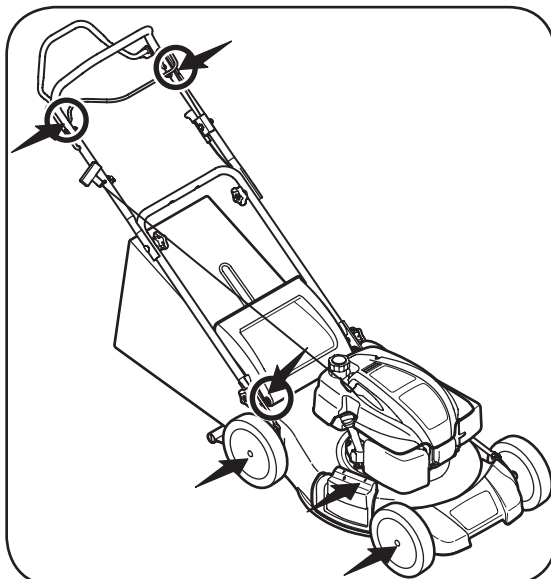

Figure 5-1: Areas to lubricate on mower.
1. Lubricate pivot points on the blade control at least once a season with light oil. The blade control must operate freely in both directions. See Figure 5-1.
2. Lubricate the wheels at least once a season with light oil (or motor oil). If wheels are removed for any reason, lubricate surface of the pivot arm and inner surface of the wheel with light oil. See Figure 5-1.
3. Lubricate the torsion spring and pivot point on the rear discharge door and side mulch plug periodically with light oil to prevent rust. See Figure 5-1.